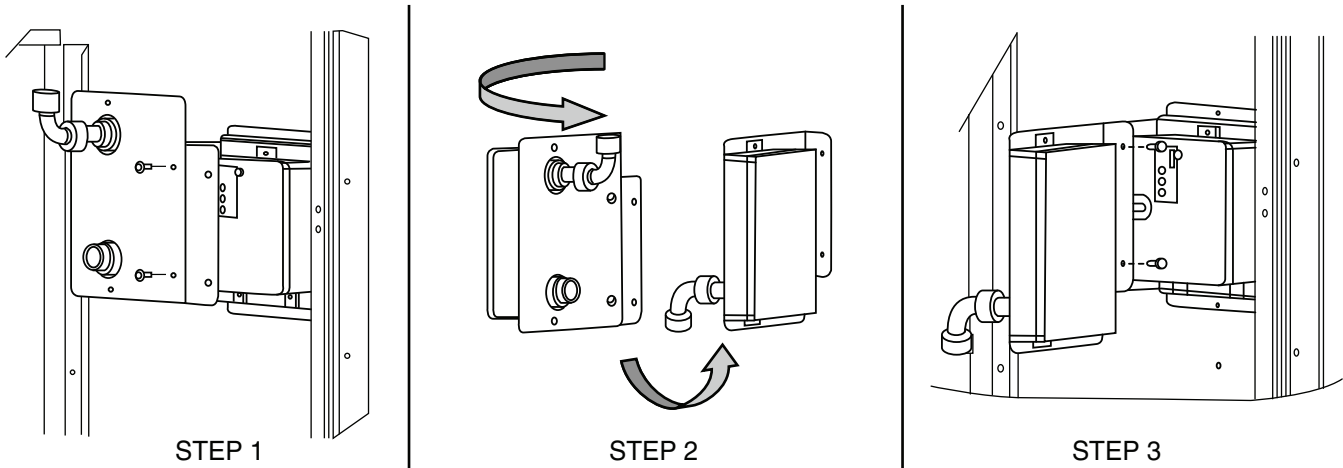

Fig. 52 — Completing Installation of Return Air Smoke Sensor
- Unscrew the two screws holding the Return Air Smoke Detector assembly. See Fig. 52, Step 1. Save the screws.
- Turn the assembly 90 degrees and then rotate end to end. Make sure that the elbow fitting is pointing down. See Fig. 52, Step 2.
- Screw the sensor and detector plate into its operating position using screws from Step 1. See Fig. 52, Step 3.